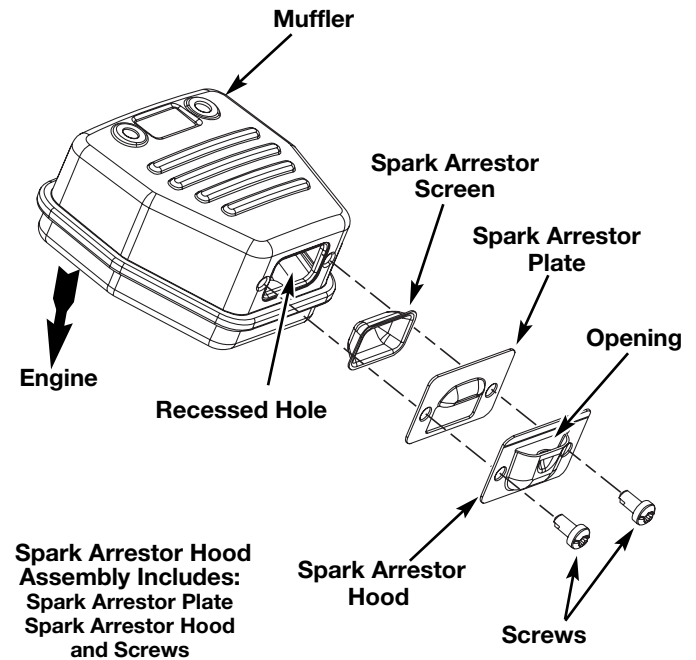

Fig. 31
2. Locate the muffler, but do not remove it. Find the two (2) screws on the bottom of the muffler (Fig. 31). These two screws hold the Spark Arrestor Hood Assembly and the spark arrestor screen to the bottom of the muffler. Remove the two (2) screws using either a torx #20 or flat blade screwdriver.
6. Place the spark arrestor plate on top of the spark arrestor with the “raised” side up and the opening facing towards the engine (Fig. 31).
7. Place the spark arrestor hood on top of the spark arrestor plate with the “raised” side up and the opening facing AWAY from the engine (Fig. 31). Verify that the exhaust will be directed AWAY from the engine.